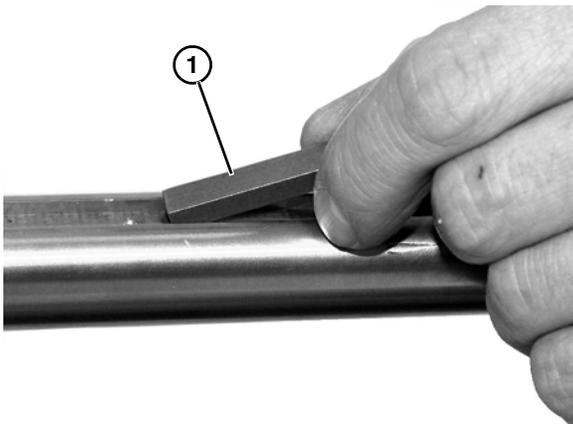

Figure 28
3. Remove output shaft key (Figure 28, item 1).